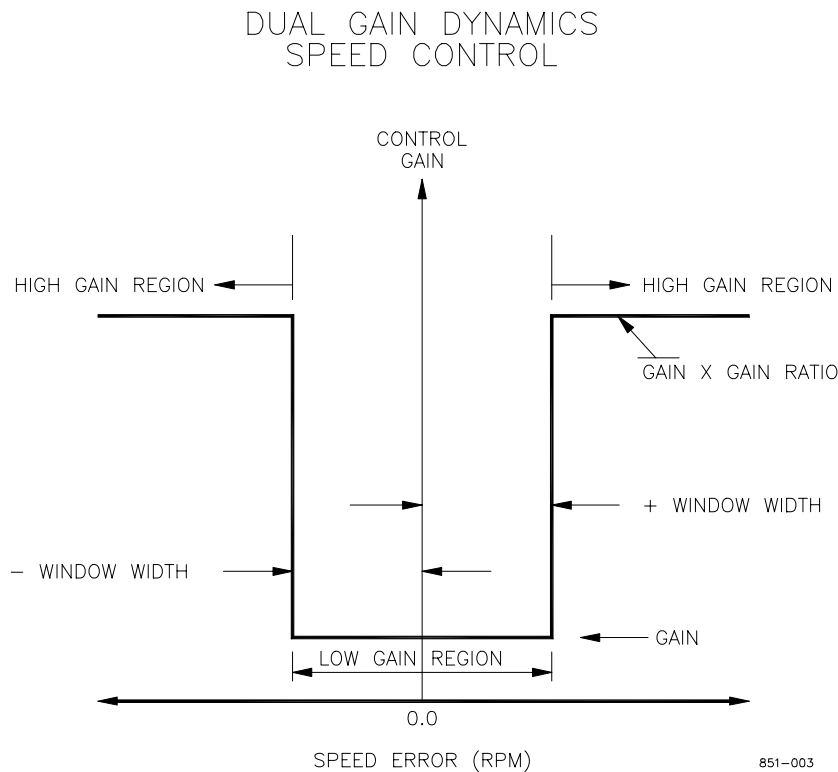

Figure 4-1. Control Gain as a Function of Speed Error
- 04 WINDOW WIDTH 1 (RPM)** is the magnitude (in rpm) of speed error at which the control automatically switches to fast response. The control uses the absolute value of speed error to make this switch. The absolute value is the difference between the speed reference and the speed. A Window Width too narrow will result in cycling that always factors in the Gain Ratio (see Figure 4-1).
- 05 GAIN RATIO 1** is the ratio of the Gain setting at steady state to the Gain setting during transient conditions. The Gain Ratio operates in conjunction with the Window Width and Gain adjustments by multiplying the Gain set point by the Gain Ratio when the speed error is greater than the Window Width. This makes the control dynamics fast enough to minimize engine-speed overshoot on start-up and to reduce the magnitude of speed error when loads are changing. This allows a lower gain at steady state for better stability and reduced steady-state actuator linkage movement (see Figure 4-1).
- 13 WINDOW WIDTH 1 (RPM)** is the magnitude (in rpm) of speed error at which the control automatically switches to fast response. The control uses the absolute value of speed error to make this switch. The absolute value is the difference between the speed reference and the speed. A Window Width too narrow will result in cycling that always factors in the Gain Ratio (see Figure 4-1).
- 14 GAIN RATIO 1** is the ratio of the Gain setting at steady state to the Gain setting during transient conditions. The Gain Ratio operates in conjunction with the Window Width and Gain adjustments by multiplying the Gain set point by the Gain Ratio when the speed error is greater than the Window Width. This makes the control dynamics fast enough to minimize engine-speed overshoot on start-up and to reduce the magnitude of speed error when loads are changing. This allows a lower gain at steady state for better stability and reduced steady-state actuator linkage movement (see Figure 4-1).